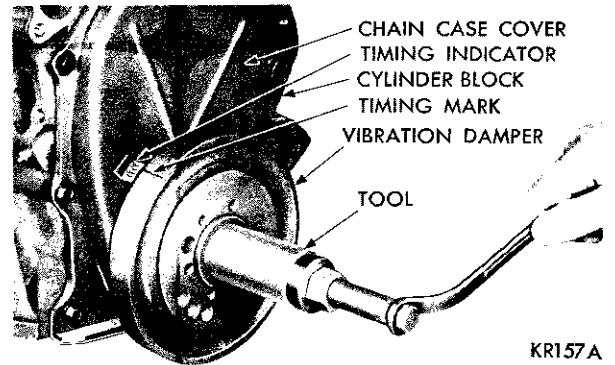

Fig. 27—Installing Vibration Damper Assembly Using Tool C-3688
(2) Place the installing tool, part of puller set Tool C-3688 in position and press the damper on the crankshaft (Fig. 27).
(3) Install the damper retainer washer and bolt. Tighten to 135 foot-pounds torque.
(4) Slide the belt pulley over the shaft and attach with bolts and lockwashers.
(5) Tighten the bolts to 15 foot-pounds torque.